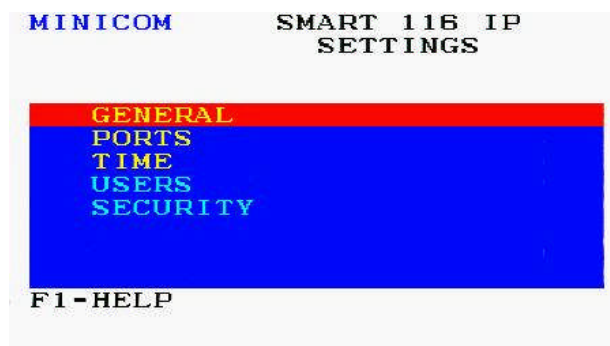

Figure 53 – OSD Settings Window
1. In the OSD Settings window (see Figure 53), navigate to **GENERAL** so that the red line is on it, and press **Enter**.
1. In the OSD Settings window (see Figure 53), navigate to **PORTS** so that the red line is on it, and press **Enter**.
1. In the OSD Settings window (see Figure 53), navigate to **TIME** so that the red line is on it, and press **Enter**.